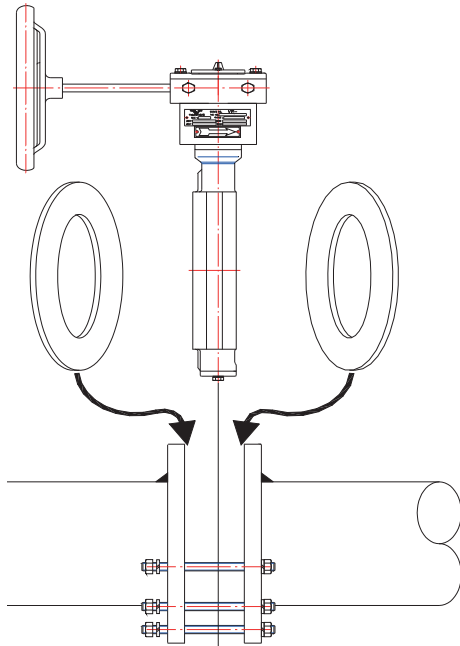

Fig. 5
7.5. Install valve and gaskets into pipeline as (Fig.5). sand and